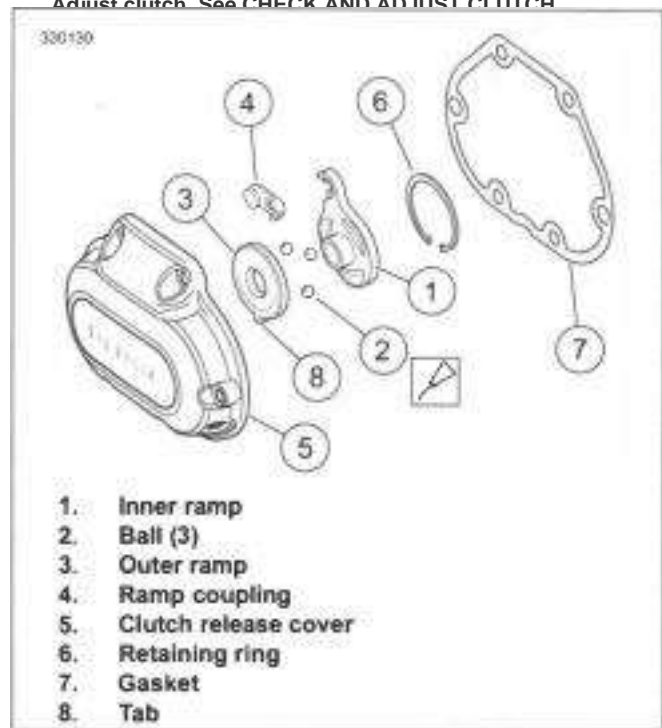

Figure 5-8. Release Mechanism Assembly
1. See Figure 5-8. Wash the ball and ramp mechanism components in cleaning solvent.
2. Inspect the three balls (2) and ball socket surfaces on ramps (1,3) for wear, pitting, surface breakdown and other damage. Replace as necessary.
3. Check fit of the ramp coupling (4) on inner ramp (1). Replace both parts if there is excessive wear.
4. Inspect the retaining ring (6) for damage or distortion.
6. Check the bore in the clutch release cover (5) where the ramps (1, 3) are retained. There should be no wear that would cause the ramps to tilt, causing improper clutch adjustment.
3. See Figure 5-8 . Place outer ramp (3) with ball socket side up in clutch release cover. Confirm tab (8) is in clutch release cover slot.